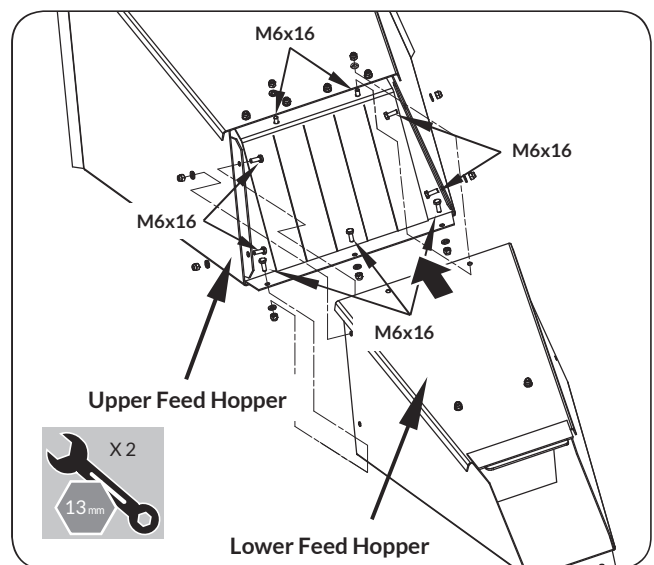

Figure 5
1. Align the holes in the upper feed hopper and holes in the lower feed hopper. Secure with the M6X16 bolts, flat washers and nuts. (See **Figure 5**)